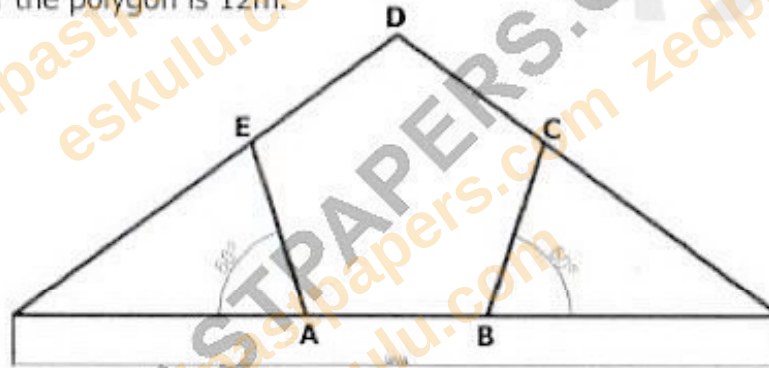

Figure 9
- 10** The roof truss of a small guard house is triangular in section as shown in **figure 9**. Within the triangle are two supports which form part of the irregular polygon ABCDE. The sides of this polygon are in the ratio AB:BC:CD:DE:EA as 2:3:3:3:3, and the perimeter of the polygon is 12m.
Question 9. SECTION B, PART III, Q10 [30 marks, if chosen]: roof-truss span (Figure 9).
The overall SPAN of the roof is the full width of the base of the truss (from the left eave to the right eave), which is wider than AB alone since A and B are only the two inner strut feet, not the ends of the base. Figure 9 is drawn to a stated scale of 1:50, meaning every 1 mm measured on the printed drawing represents 50 mm (0.05 m) of actual size.
Answer: METHOD: (1) using a ruler, measure the full base line of the triangle in Figure 9 on YOUR OWN printed copy, in millimetres; (2) multiply that measured length by 50 to get the actual length in millimetres; (3) divide by 1000 to convert to metres. For example, if your measured base line is 100 mm on the page, the actual span = $100 \times 50 = 5000 \text{ mm} = 5 \text{ m}$.